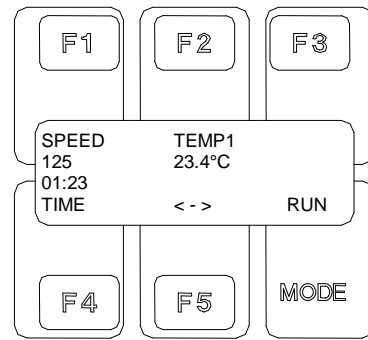

Fig. 18: Operating mode RUN
- In fig. 18 (program definition) is indicated, whether the PRSTEP is “ON” or “OFF”. Furthermore the step duration is indicated.
Selection of the different “STEPS“ (fig. 18):